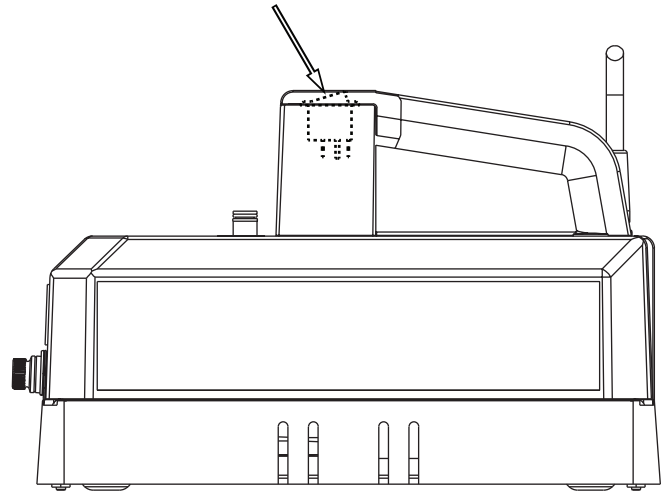

Figure 7. PE10 Motor Control Switch
2. See Figure 7. Place the motor control switch located in the handle in the ON position.